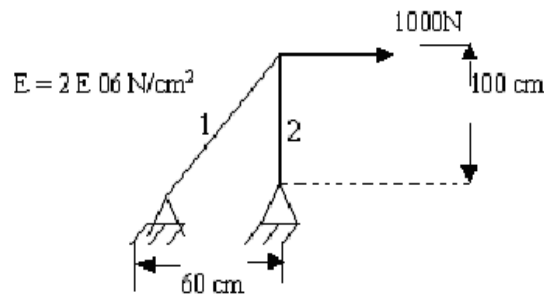

Figure 3
3. The members (1) and (2) are circular in cross section with diameters of 10 cm and 20 cm respectively. Determine the displacement at the node where load is acting. {As shown in the Figure 3} [16]